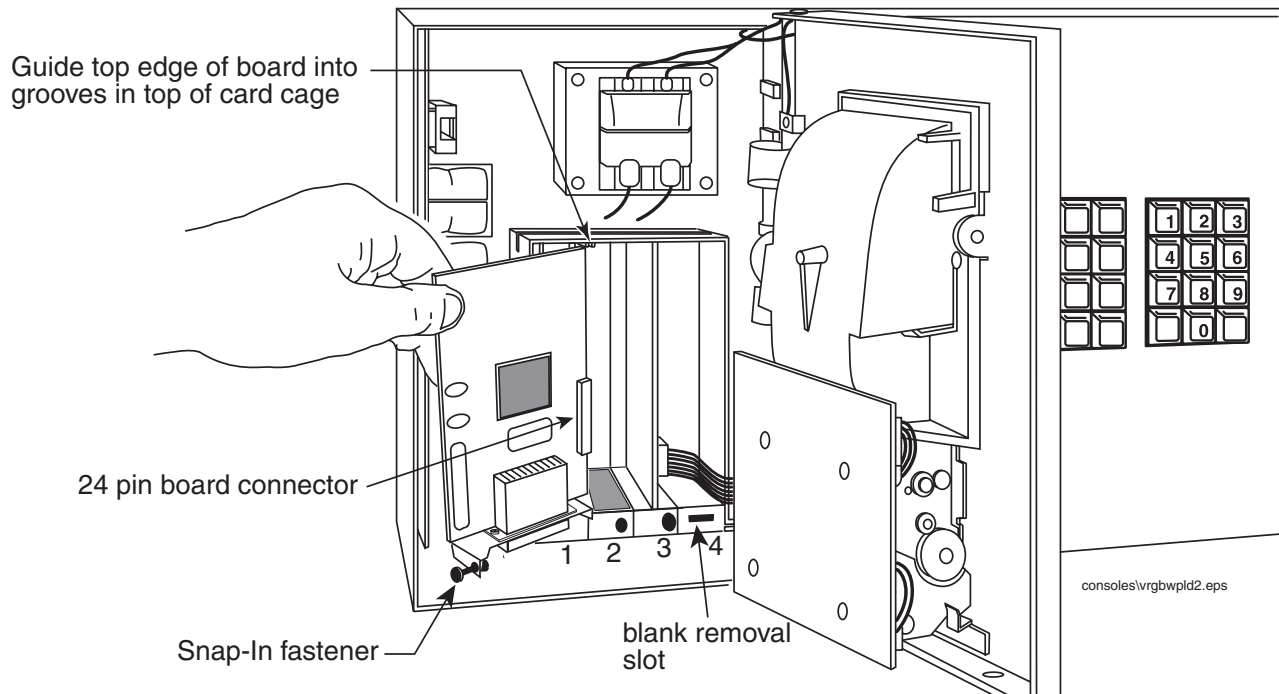

Figure 3. Comm Module Installation
If your console has "knockout" cover plates, open the printer door and insert a flat blade screw driver in the slot provided in the front of the cover plate you are removing and twist it to break the front set of metal securing tabs (see Figure 3). Once the front tabs are broken, carefully rock the loosened end of the plate until the rear set of securing tabs break. Remove and discard the cover plate.
6. Slide the new or replacement Comm module into the open slot (see Figure 3 on page 7) until the 24-pin female connector on the rear edge of the board seats in the 24-pin male connector on the motherboard. Do not apply excessive force when installing the module. With your thumb, push in the black retaining fastener on the end plate until it snaps into the hole in the card cage.
7. Slide the new Comm module into the open slot (see Figure 3 on page 7) until the 24-pin female connector on the rear edge of the board seats in the 24-pin male connector on the motherboard. Do not apply excessive force when installing the module. With your thumb, push in the black retaining fastener on the end plate until it snaps into the hole in the card cage.